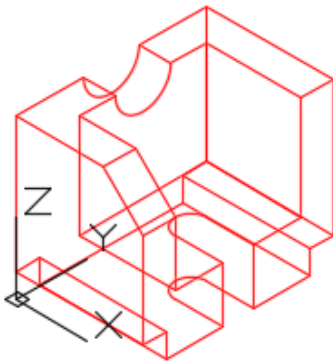

Figure Step 5
Step 5 Ensure that the USC is set to World and the current view is SE Isometric. (Figure Step 5)